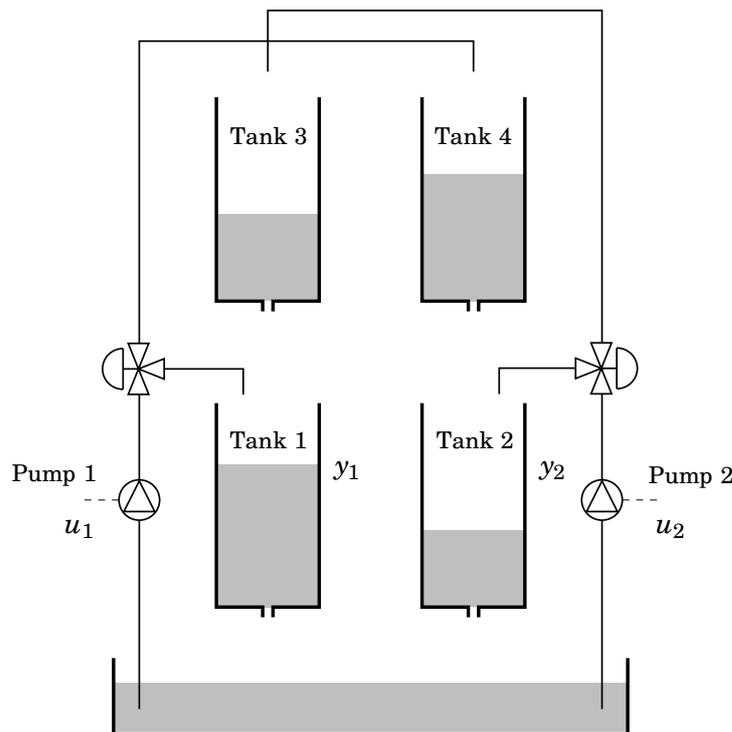

Figure 7.1 The quadruple-tank process.
7.3 Figure 7.1 shows the quadruple-tank process that will be used in Lab 2. The goal is to control the levels in the lower tanks (y_1, y_2) using the pumps (u_1, u_2). For each tank $i = 1 \dots 4$, mass balance and Bernoulli's law give that